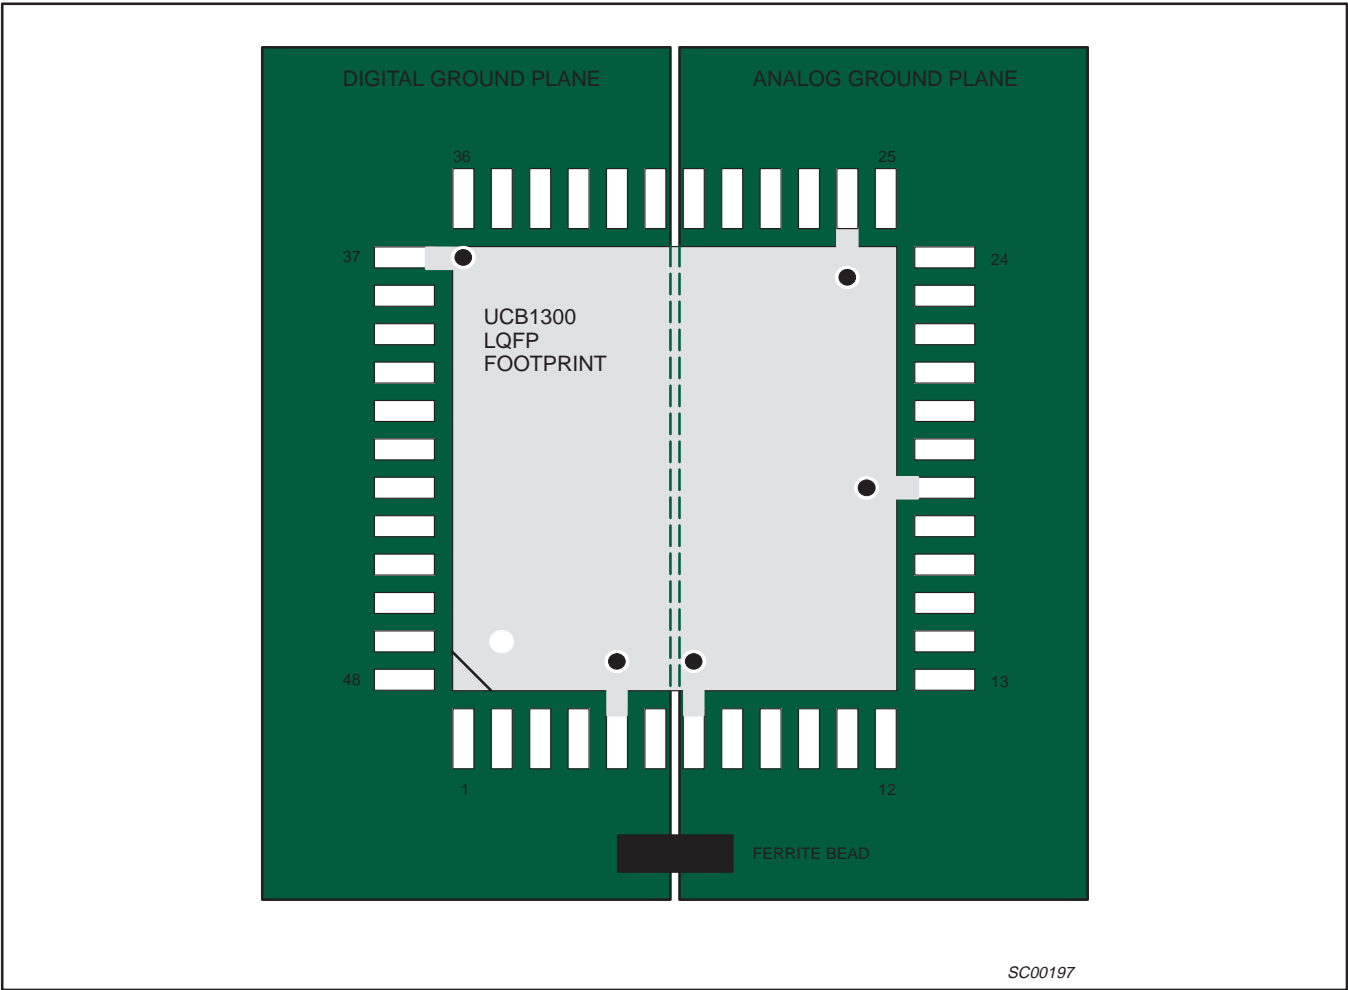

Figure 6. UCB1300 recommended ground plane
2. Split the ground plane into separate digital and analog ground planes with digital components placed above the digital ground plane, and analog components above the analog ground plane as shown on Figure 6. The digital pins and analog pins should be connected to their own plane with very low impedance vias.